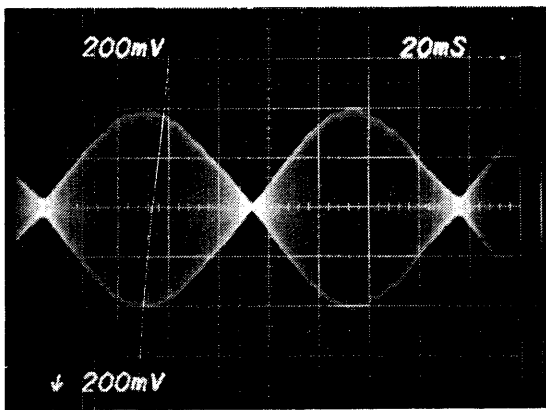

FIGURE 12 HEAD RADIAL ALIGNMENT
- e. The two lobes must be within 70% amplitude of each other. If the lobes do not fall within the specification, continue on with the procedure. Reference Figure 12.
- h. When the lobes are of equal amplitude, tighten the motor mounting screws. Reference Fig. 12.